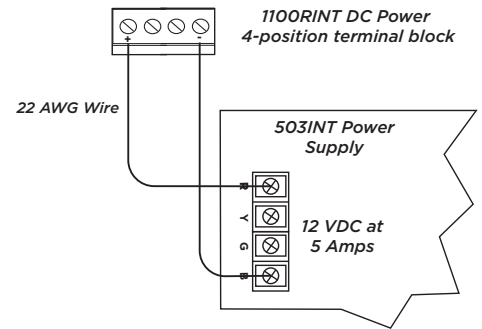

Figure 3: External Power Supply
2. Using the 22 AWG wire, connect the DC power terminal block to the DC terminal on the 503INT power supply PCB. See Figure 3.